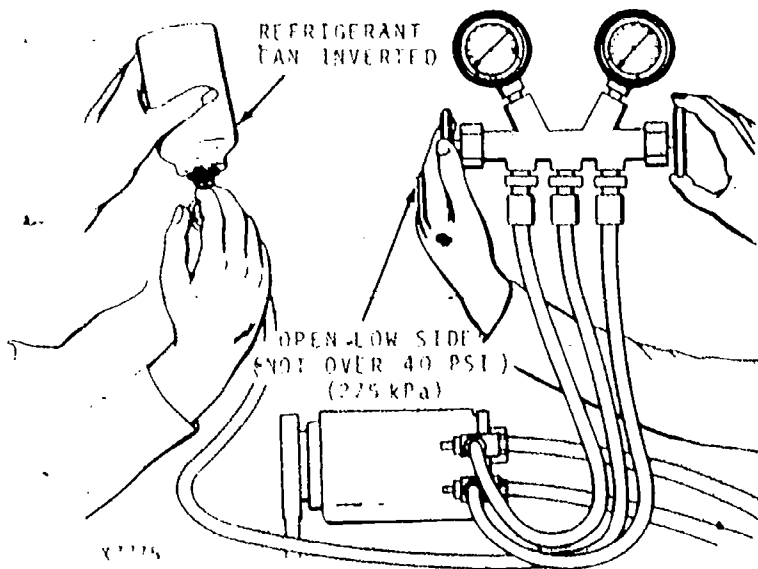

Fig 68 -- Add Refrigerant With System In Operation
2. Add Refrigerant-12 to system (Fig. 68).